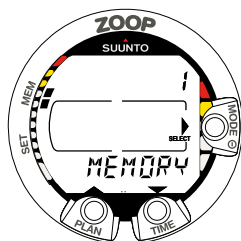

Fig. 4.2. Memory option. [1 MEMORY].
2. Scroll the mode options by pressing the arrow up/down buttons. When scrolling the options, the label and an equivalent number are shown on the display (Fig. 4.2. – 4.3.).
6. Depending on the mode, you are now able to have a look at the memories or make desired settings (use the the arrow up/down buttons). The SMART button is used to Quit or to confirm the settings (OK).